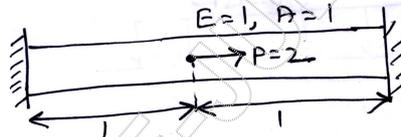

Fig.Q2(a)
- 2 a. Find the displacement at mid of the bar fixed at both ends and also the equation of stress for the details shown in Fig.Q2(a) by R-R method.